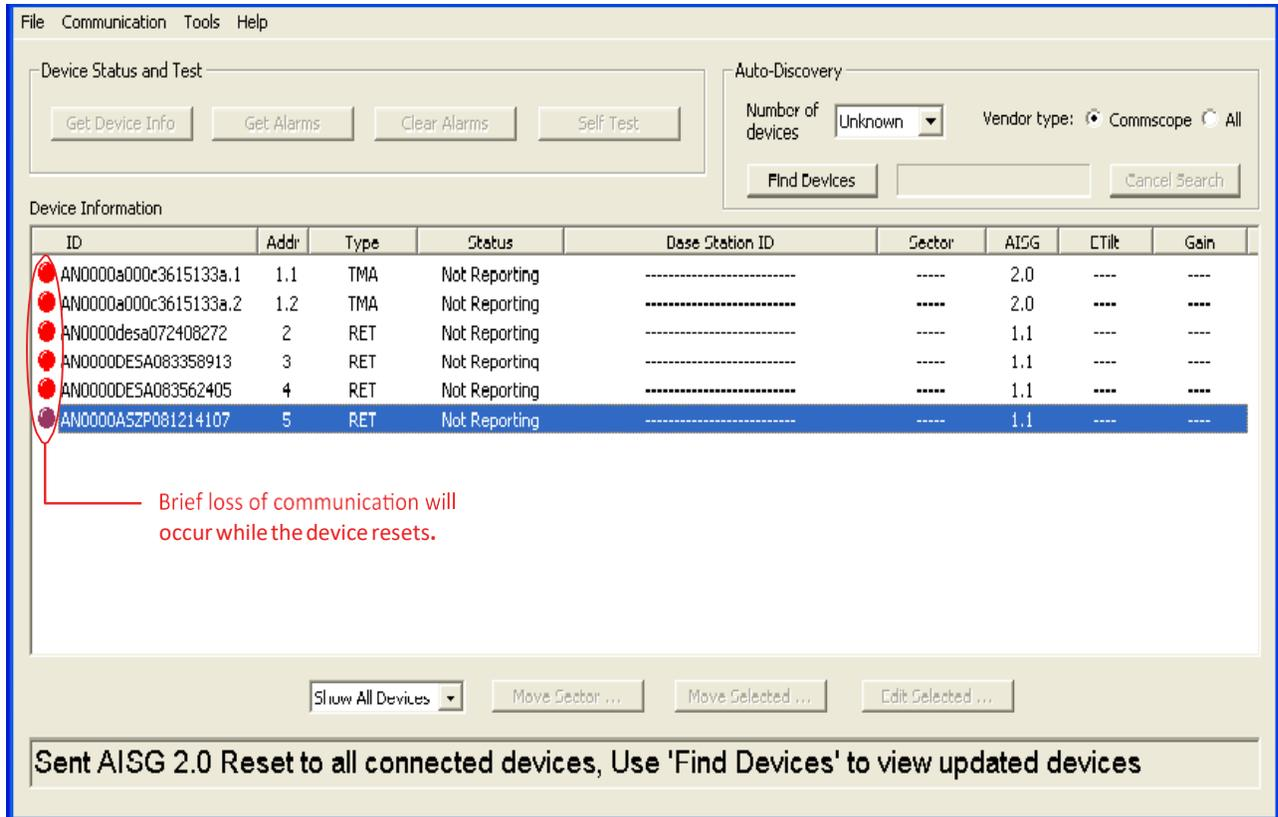

Figure 5-3. Resetting All ATM200-002 Actuators to AISG 2.0.
- Communication is temporarily interrupted to the AISG devices on the RET system when an **AISG 2.0 Reset** command is sent. This interruption is identified by a red indicator next to the device in the Device Information window (Figure 5-3).